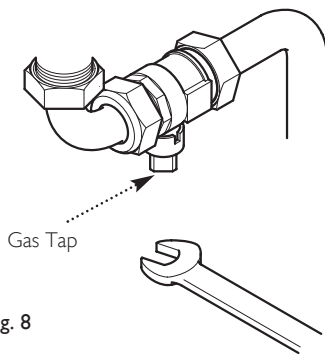

Fig. 8
Turn off the gas supply at the meter and call your gas supplier immediately. It is possible to isolate the boiler at the isolating valve (Fig. 8).
1. Using a suitable open ended spanner, turn the square nut on the gas tap through 90° (1/4 turn) in a clockwise direction to isolate the gas supply at the boiler (Fig. 8).